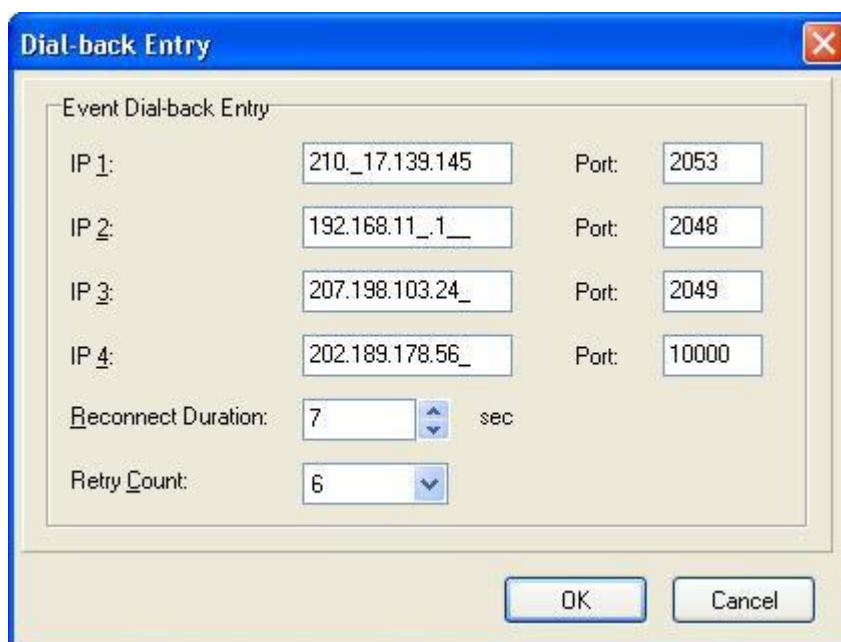

Fig 8.2.4c
Step 3 : Click **[Dial Back Settings]** button to pop up {Dial-back Entry} panel as Fig 8.2.4c.